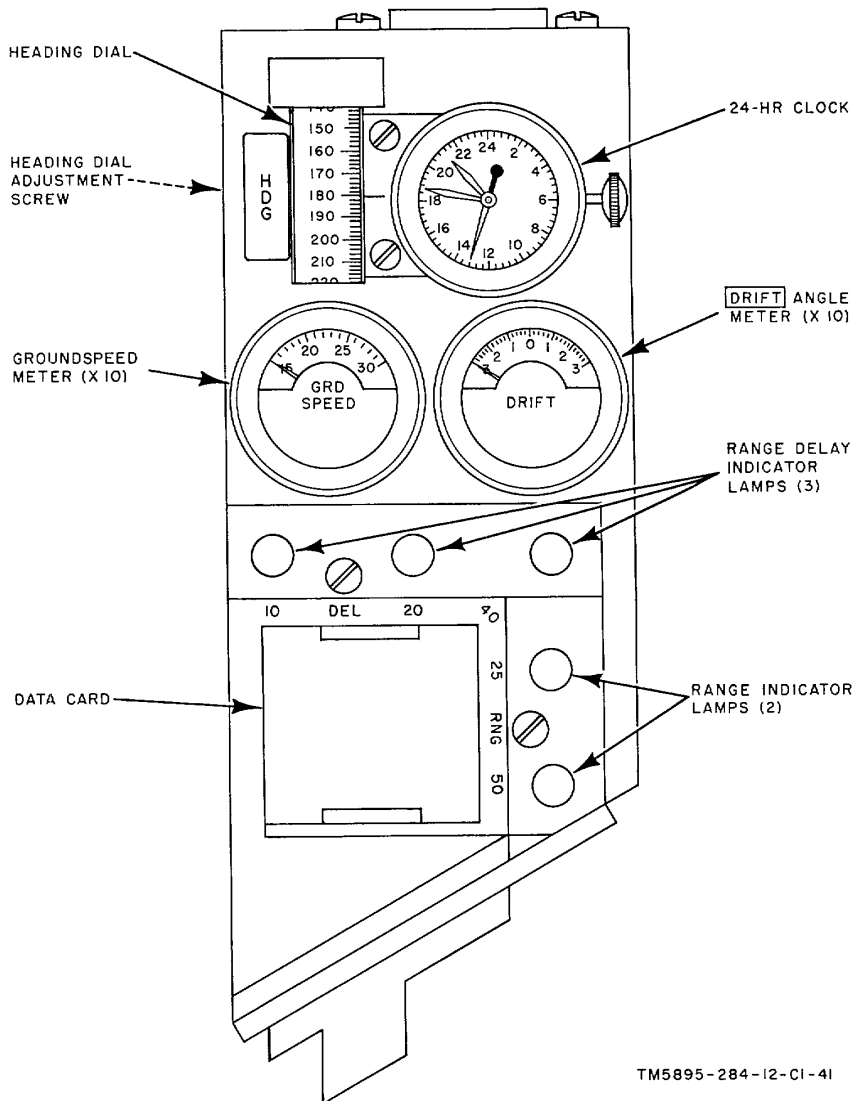

Figure 4-3. Data chamber (RO-166*/UP).
b. *Data-Chamber Indicators* (fig. 4-3). The following chart lists the indicators of the data chamber (removable self-contained unit) and indicates the function of each.
b. Data-Chamber Indicator (fig. 4-3) (cont).